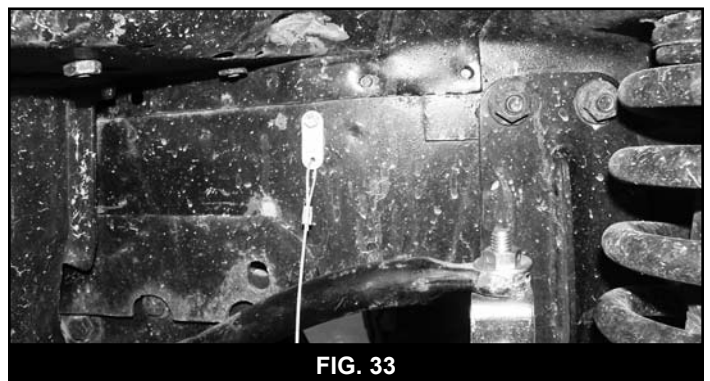

FIG. 33
92. Check the jam nuts to be sure they are securely locked off. Disconnect both end links and fold them up against the sway bar. Clip the provided lanyard/clip assembly around the sway bar/end link and find the best position for mounting the lanyard. This position will vary from vehicle to vehicle. Use your best judgment. Use the provided self-drilling screws to mount the lanyard to the body/frame (Fig 33).